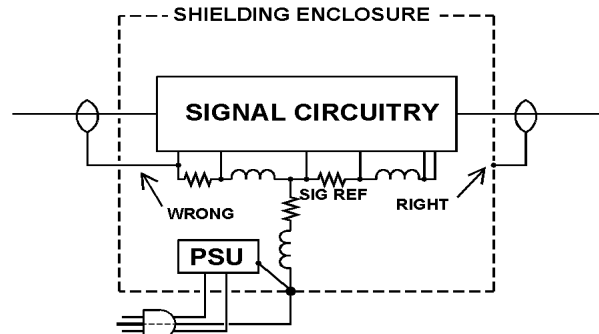

Fig 2 – The Pin 1 Problem
**The Pin 1 Problem:** The most common way that hum, buzz, and RF interference enters equipment is via a design defect first widely understood by the pro audio community thanks to the work of Neil Muncy, (ex-W3WJE). He named it "the pin 1 problem," because it is a mis-wiring of the shield of audio cables – pin 1 in the XL connector commonly used for pro audio, but it is just as much a problem in unbalanced interfaces of all types, as shown in Fig 2.
Fig 2 illustrates both right and wrong connection of the shield. The trouble-free connection on the right goes straight to the shielding enclosure (chassis), so shield current flows harmlessly out the safety ground on the power cord. Any noise (or RF) on the cable shield stays "outside the box."
methods are obvious – modify the equipment to eliminate the pin 1 problem, or rewire the connections so that the shield goes to the proper connection point, as shown in Figs 2, 3a, and 3b. Unfortunately, the way that most equipment is built usually makes both of these methods difficult or impossible to implement.